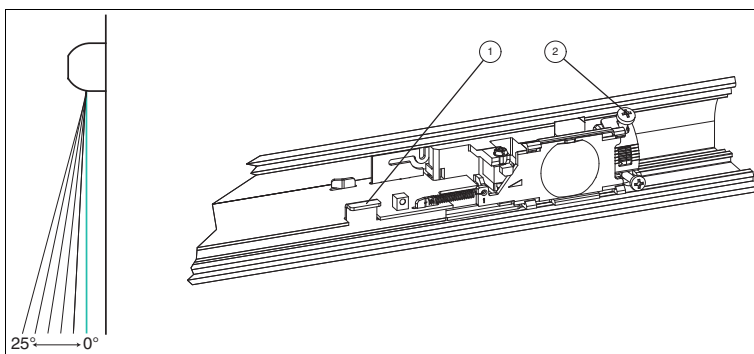

Figure 6.1 Setting the detection angle
the M3 screw on the top of the module bracket to fix the inclination angle (2). → see Figure 6.1 on page 14.